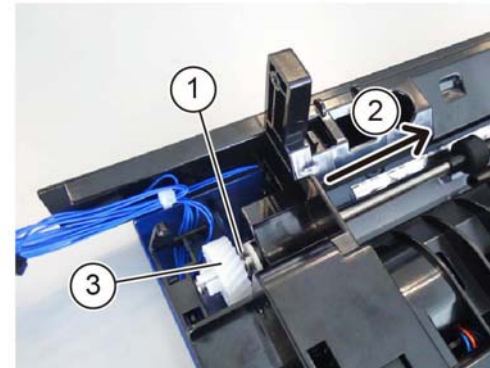

Figure 7 Helical gear removal
13. Remove the helical gear, Figure 7:
- a. Remove the E-clip (1).
- b. Move the exit roll in the direction of the arrow (2).
- c. Disengage the hook to remove the helical gear (3).